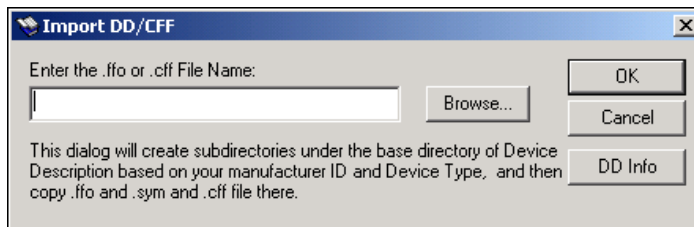

Figure 2-2. Import DD/CFF Dialog Box
- Click the **Import DD/CFF** button. The Import DD/CFF dialog box appears as shown in Figure 2-2.